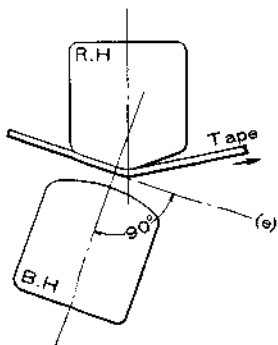

Fig. 4
- d) Clearance of the Bias Head (See Fig. 4, 5)